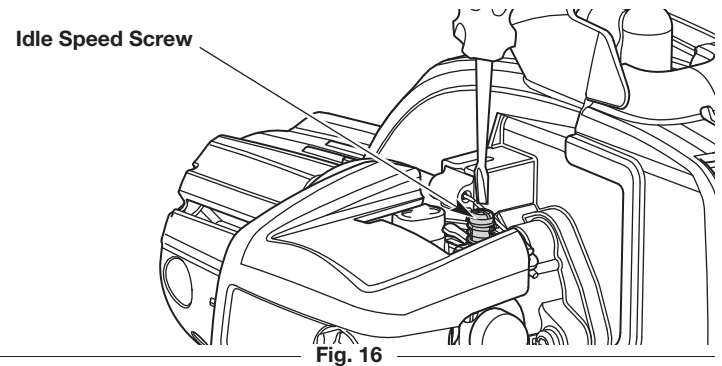

Fig. 16
- If the engine stops, use a small Phillips screwdriver to turn the idle speed screw clockwise, 1/8 of a turn at a time (as needed) until the engine idles smoothly (Fig. 16).
- If the engine idles too quickly, turn the idle speed screw counterclockwise, 1/8 of a turn at a time (as needed) to reduce the idle speed (Fig. 16).